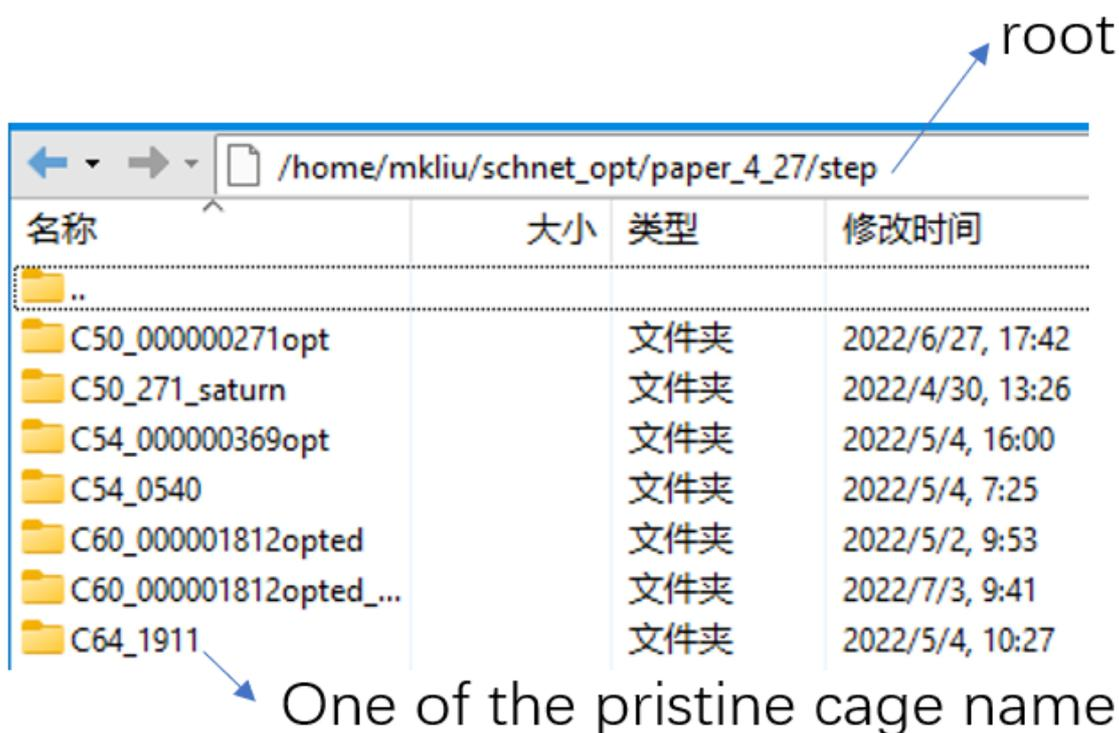

Fig 4. An AutoSteper workbase.
- `root`: the ABSOLUTE path to the growth simulation workbase, where the `AutoSteper` would make a directory in the name of the pristine cage. Fig 4 presents one of the workbase directory.